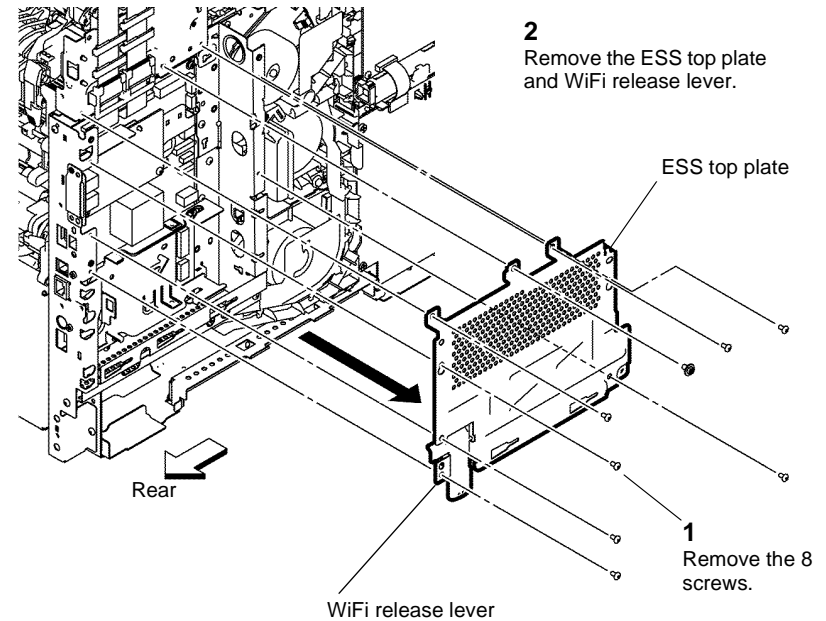

Figure 1 Remove the ESS top plate
2. Prepare to remove the Fax PWBA, Figure 1.